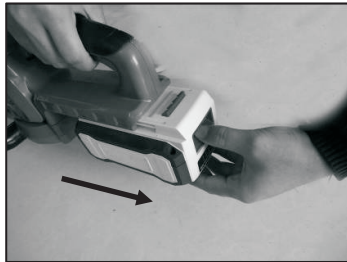

Fig.2D
2. Remove battery pack from the product. (Fig.2D)